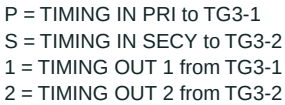
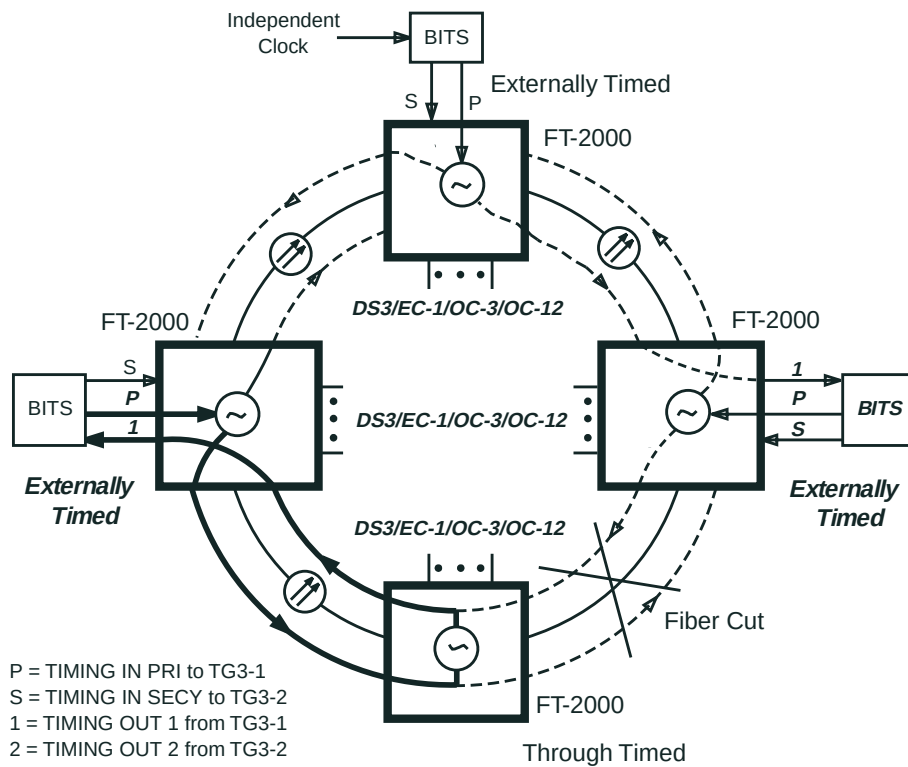

Figure 5-24. Example of a Ring Application with All Nodes Provisioned Externally Timed (with Timing Drops)
Figure 5-25. Example of a Timing Loop Resulting from Incorrect Provisioning
- **All nodes provisioned externally timed:** This configuration (Figure 5-24) is for users with BITS or stratum 1 traceable clocks at all nodes in the ring. At least one node must be externally timed with a stratum 1 traceable source that is not derived from the ring. This node provides the timing signal that is distributed to some or all of the remaining nodes. At the remaining nodes, timing signals are provided to and received from a BITS clock. All nodes must be provisioned externally timed in this configuration or timing loops will occur. Figure 5-25 shows a ring application in this configuration with one node provisioned through timed and the resulting timing loop.